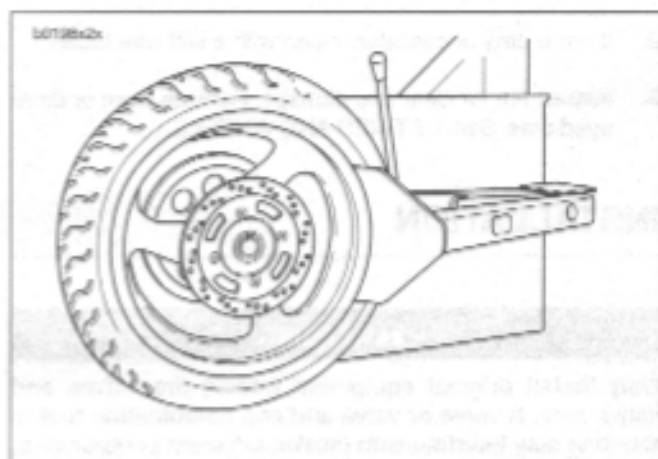

Figure 2-26. Loosening Beads from Rim Flange
- See Figure 2-26. Loosen both tire beads from rim flange.